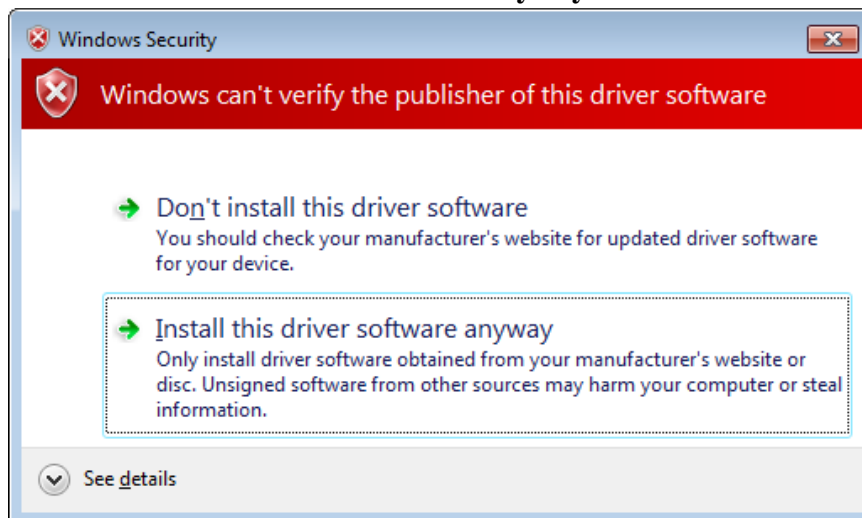

Figure 1-1
- 6、 Waiting done. If following page appear (Figure 1-1), for the old hardware, which have the following device name(DSLogic/DSLogic Pro/DSCope/DSCope20), please select **Install this driver software anyway**